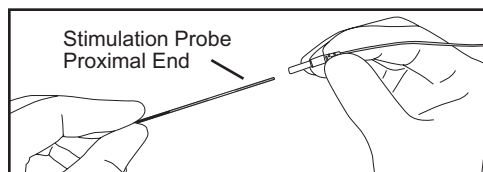

Figure 15: Connecting the Stimulation Probe to the White Connector
3. Attach the proximal end of the Stimulation Probe to the white connector of the yellow stimulation cable (see Figure 15).